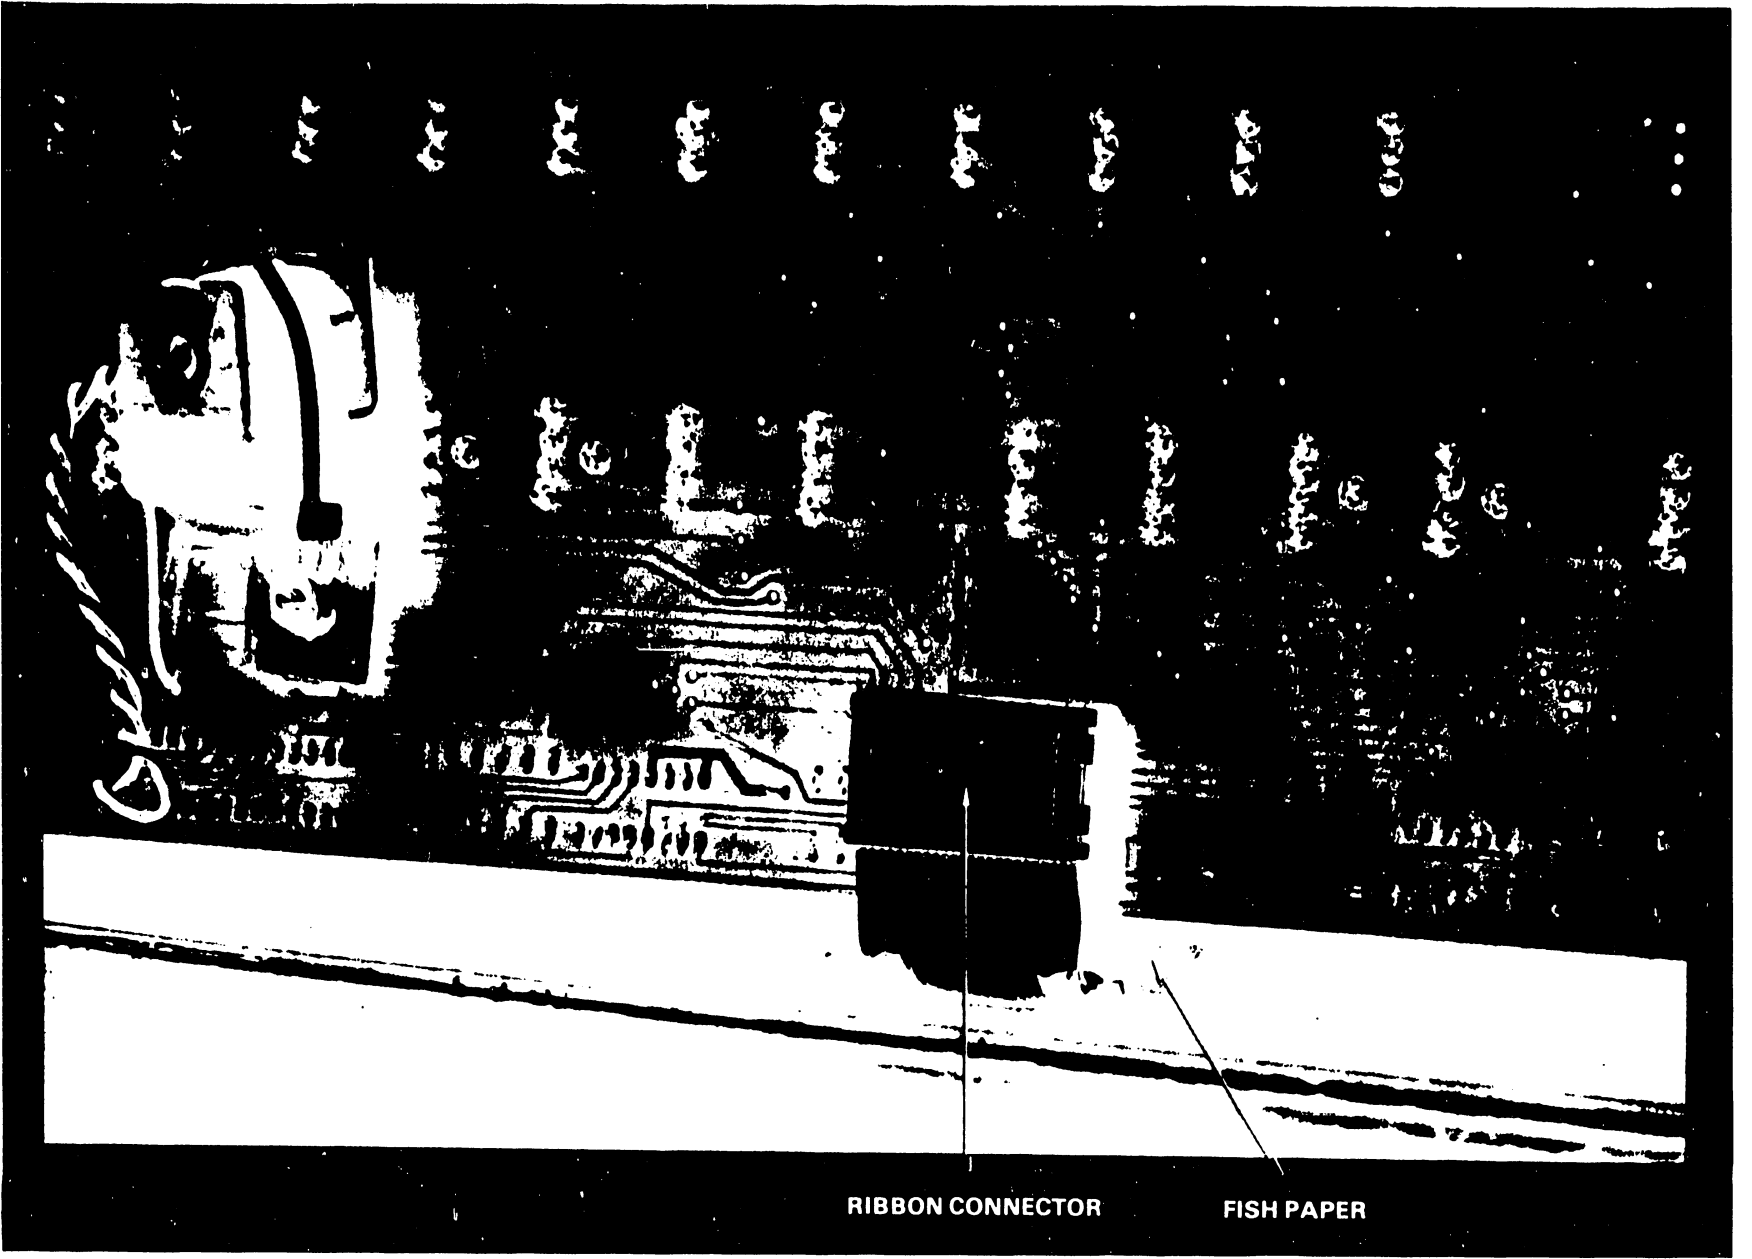

FIGURE 3-9 RIBBON CONNECTOR UNDER THE KEYBOARD
- b) Once the foil is removed from the metal surface, the keyboard can be tilted up and the ribbon cable connector on the bottom can be disconnected from the keyboard freeing the assembly. (See Figure 3-9.)